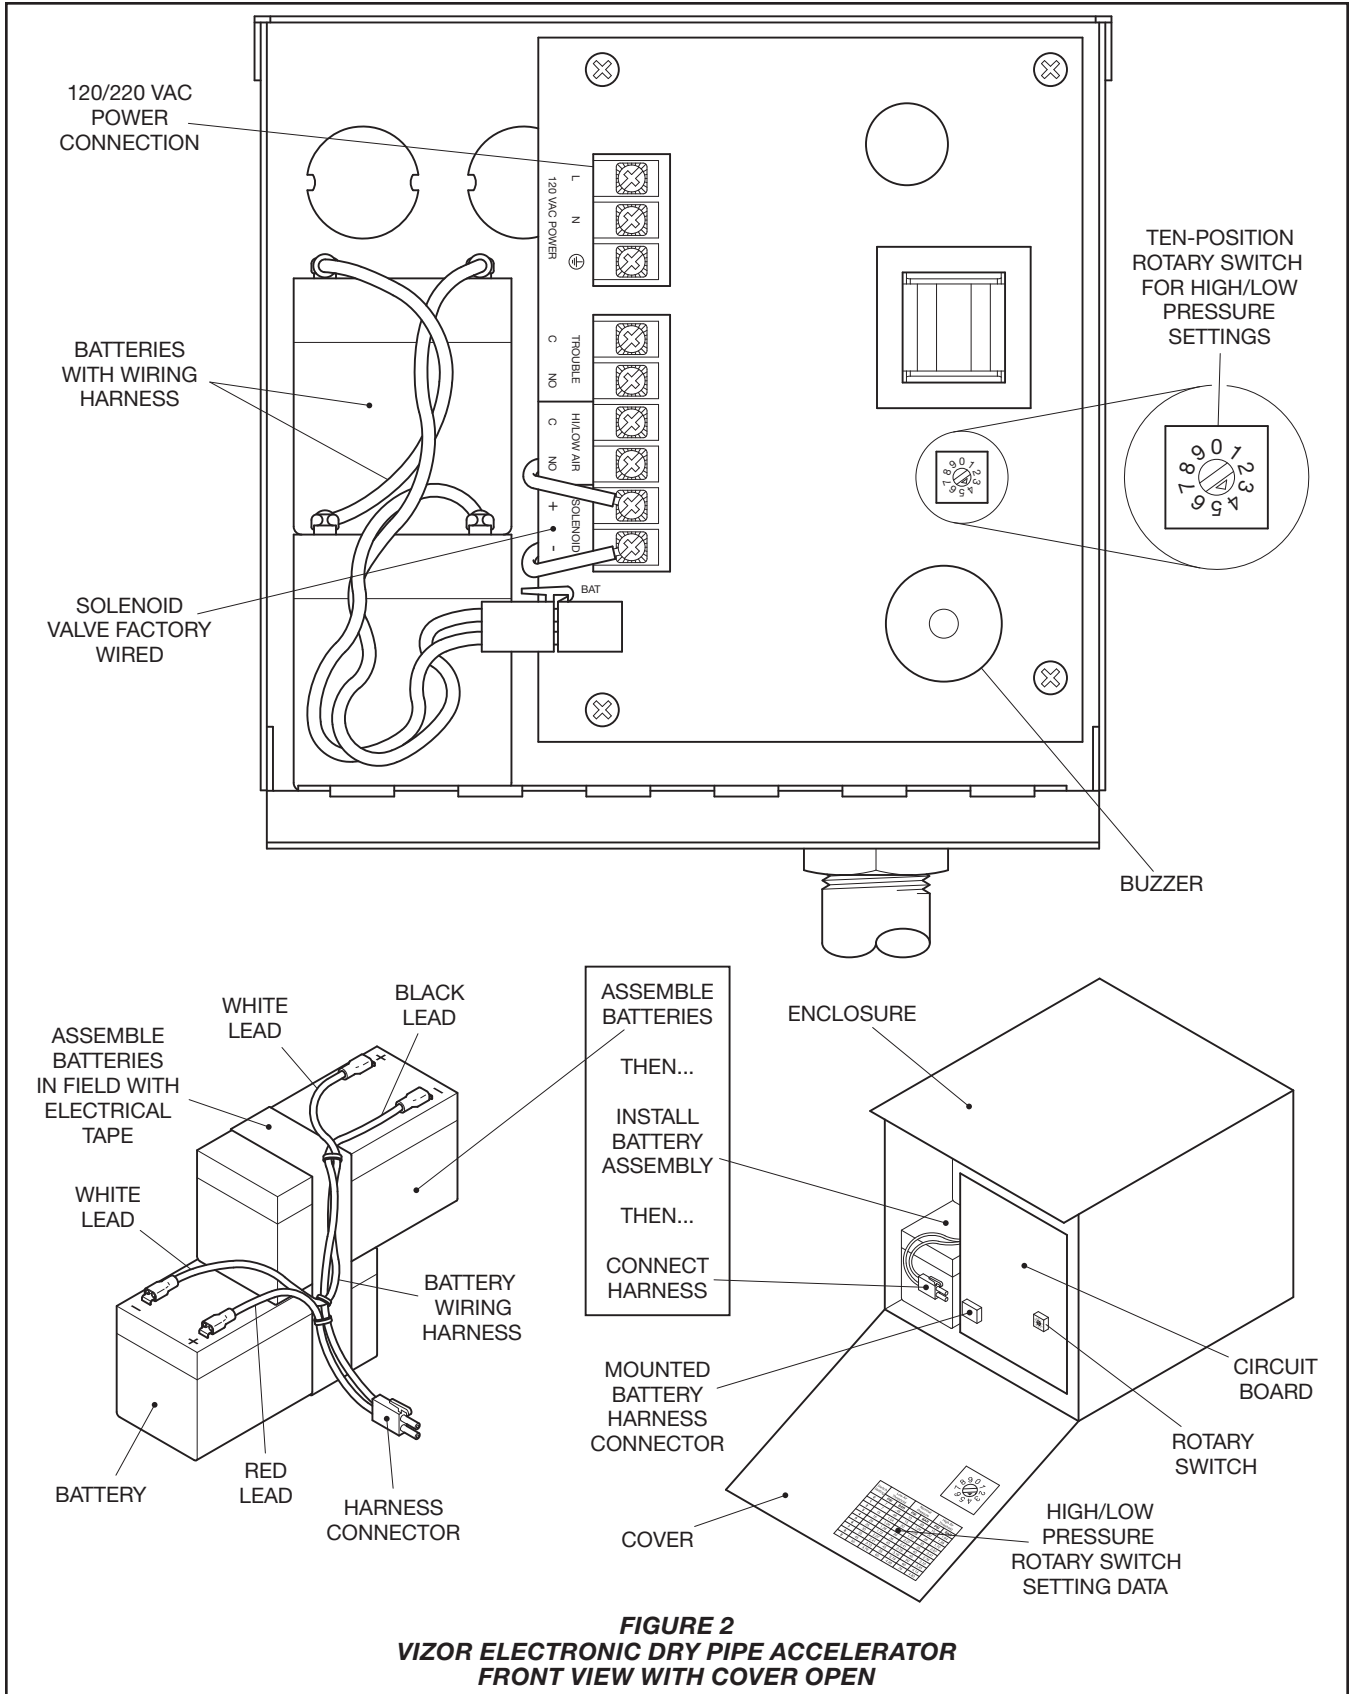

FIGURE 2
The VIZOR Accelerator contains two sets of normally open, dry contacts. The High/Low Supervisory Contacts close if the normal system air pressure in the system increases or decreases beyond a given point (refer to Table B). The ten-position rotary switch (refer to Figure 2) provides ten preset pressure settings. The factory setting is position #4 for a normal system air pressure of 30 psi.
Step 2. Following Figure 2 and Table B, set the Ten-Position Rotary Switch to the required setting using the provided screw driver.
Step 3. As shown in Figure 2, tape the 12V, 1.3 AH Batteries together. Connect the Harness wires (Leads in Figure 2) to the Batteries, slide the Battery Assembly into the Housing, and plug the Harness Connector into the VIZOR Accelerator circuit board.